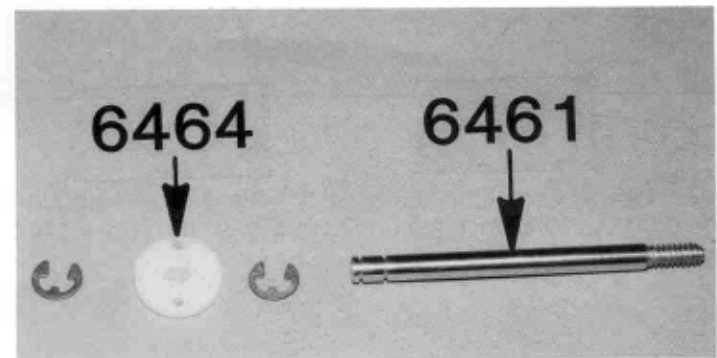

Fig. 52
□ **Fig. 52**— From Bag #4, take out the #6464 piston and #6461 shaft.